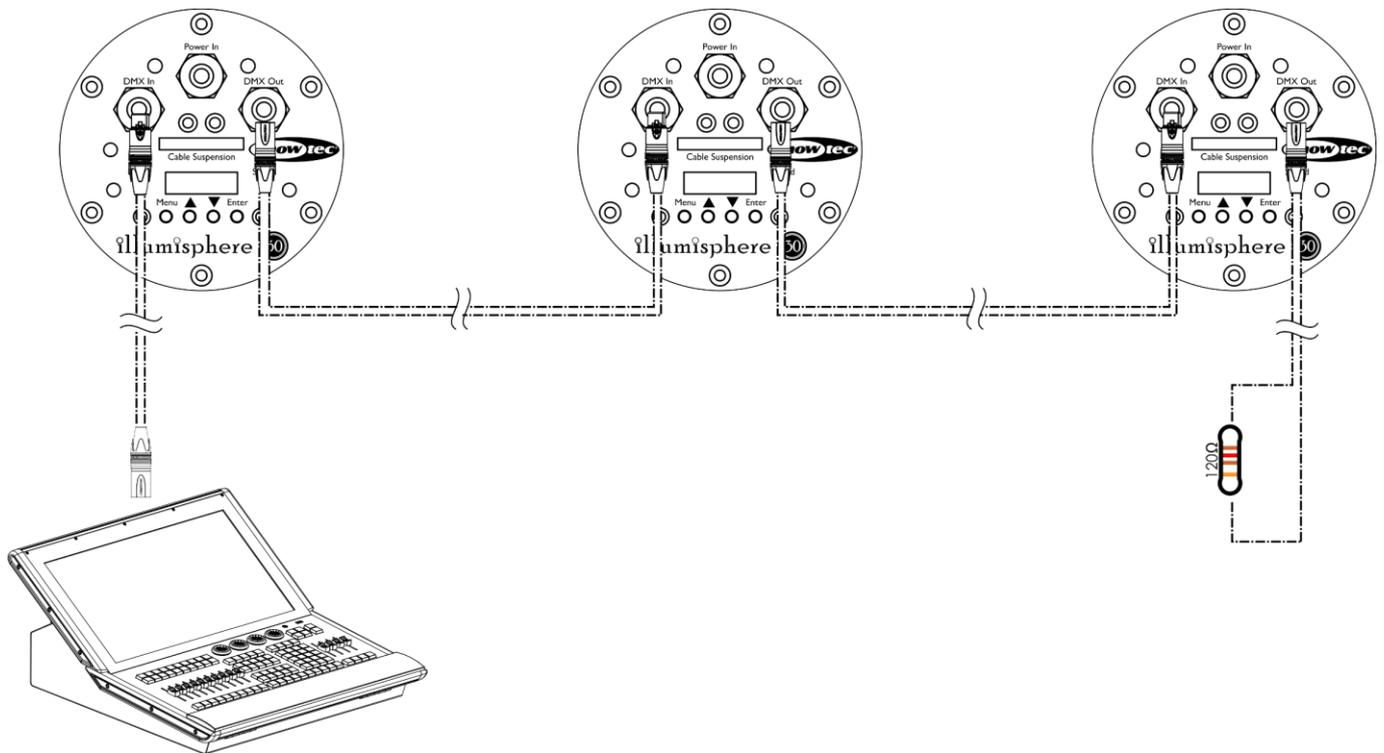

Fig. 08
- 03) Repeat step 2 to connect all devices in a daisy-chain as shown in Fig. 08.